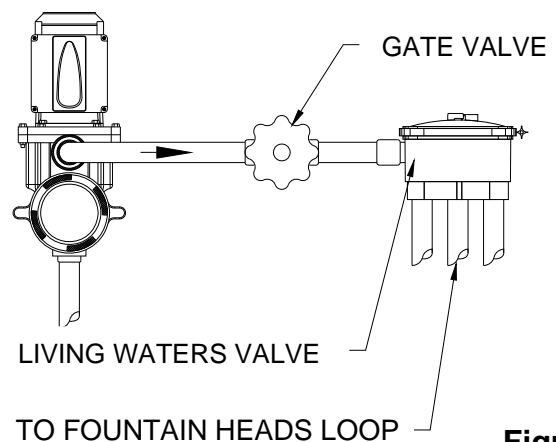

Figure 7
3. It is necessary for a gate valve to be installed between the booster pump and the rotating valve to provide adjustment of the fountain height. (See Figure 7)